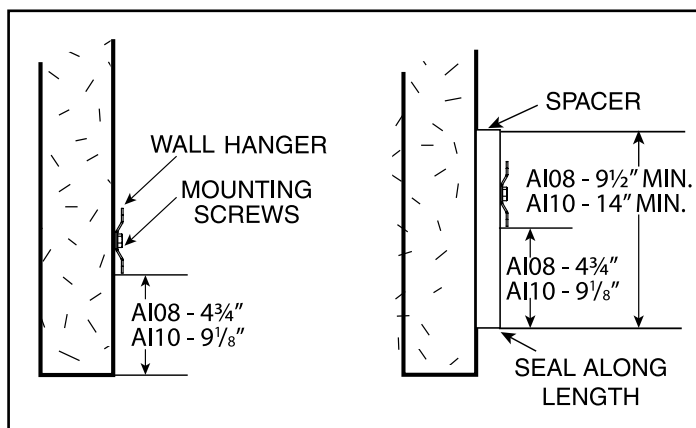

Figure 3 - Wall Mounting Location
- B. For optimum performance, the bottom of the air curtain (discharge nozzle) should be no more than 1" above the top of the door opening with the air curtain(s) mounted flush to the wall. If the air curtain must be mounted higher, it must be spaced out from the wall 3/8" for every inch the air curtain is above the door opening. **See Figure 3.** For optimum protection, any void between the air curtain and the wall should be sealed along the full length of the air curtain.
1. Position wall mounting plate over the door opening as shown in **Figure 3**. The plate should be centered over the door opening.